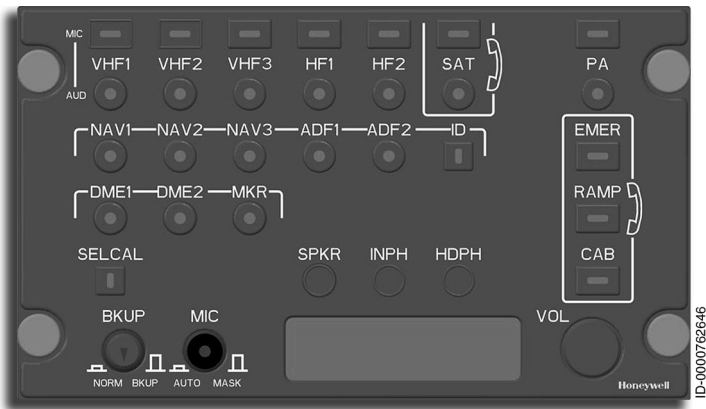

Figure 2-3
- **Cockpit Mounted Units** – There are three digital audio control panels, as shown in Figure 2-3.